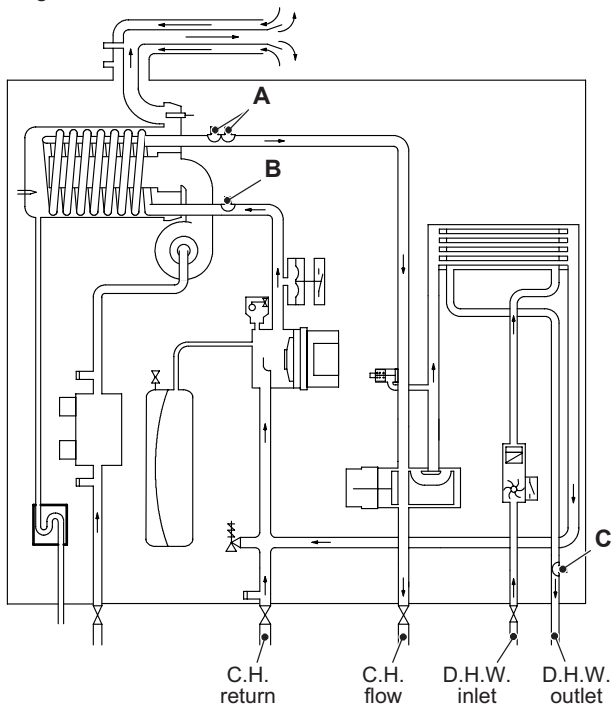
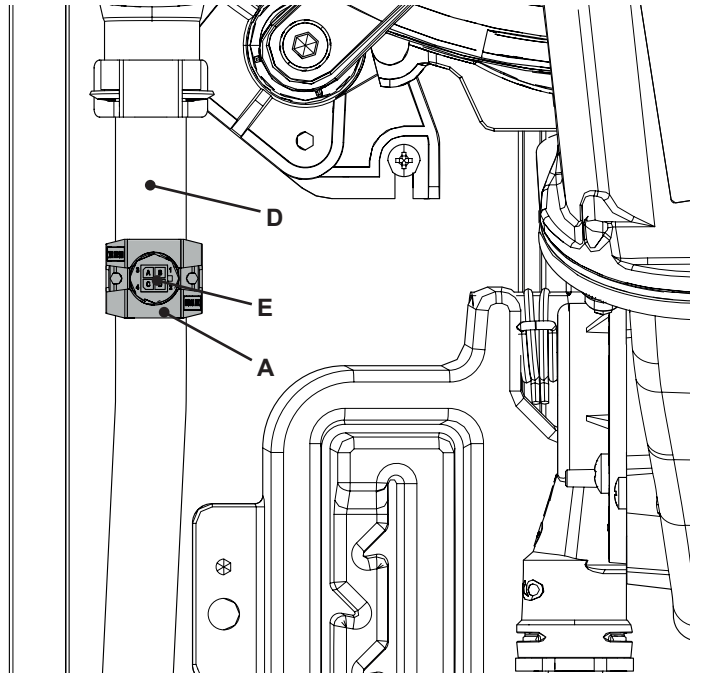
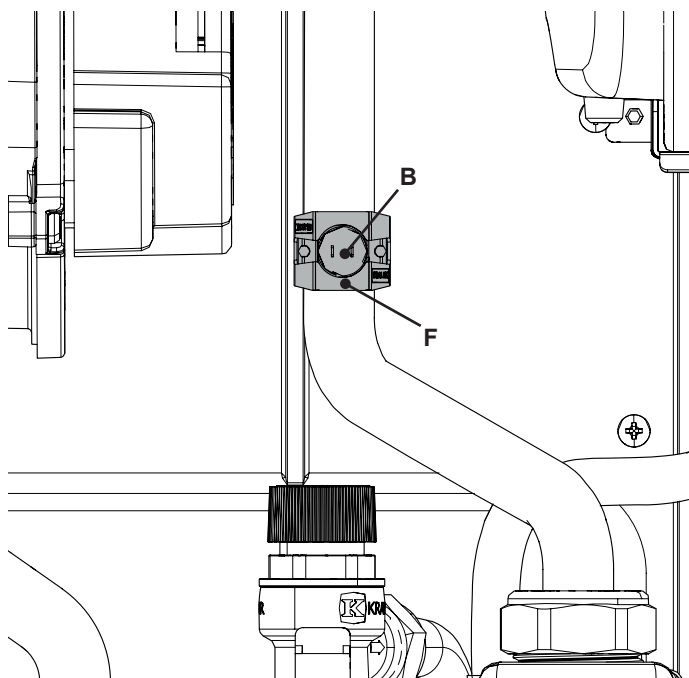
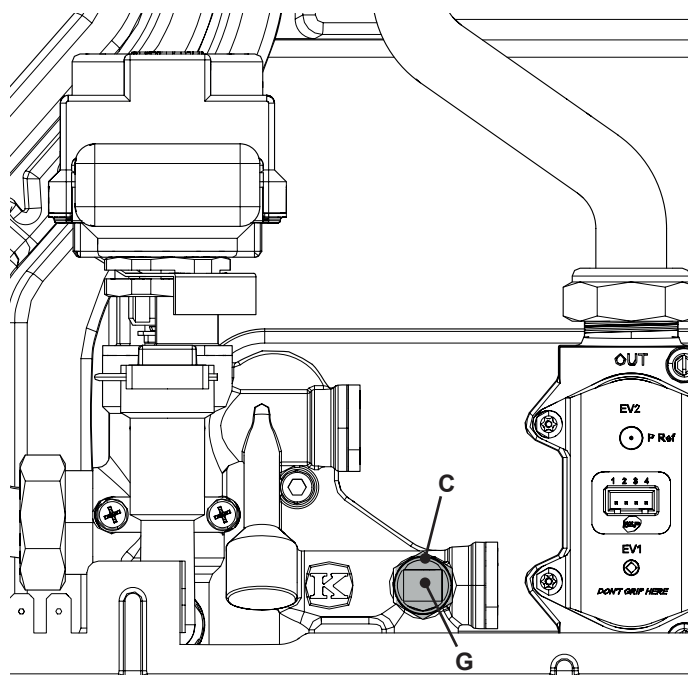

Figure 15.2
Figure 15.3
Figure 15.4
Figure 15.5
On the boiler there are three temperature probes. One on the output of the primary condensing heat exchanger (NTC heating delivery probe - NTC maximum temperature) "A" in Figure 15.2 and Figure 15.3, one on the return of the primary condensing heat exchanger (C.H. temperature return probe NTC) "B" in Figure 15.2 and Figure 15.4; one on the output of the D.H.W. heat exchanger (D.H.W. temperature probe NTC) "C" in Figure 15.2 and Figure 15.5.
- 3 Remove the electric connector "E" and the NTC probe "A" (Figure 15.3).
- 3 Remove the electric connector "B" and the NTC probe "F" (Figure 15.4).
- 3 Remove the electric connector "G" (Figure 15.5)